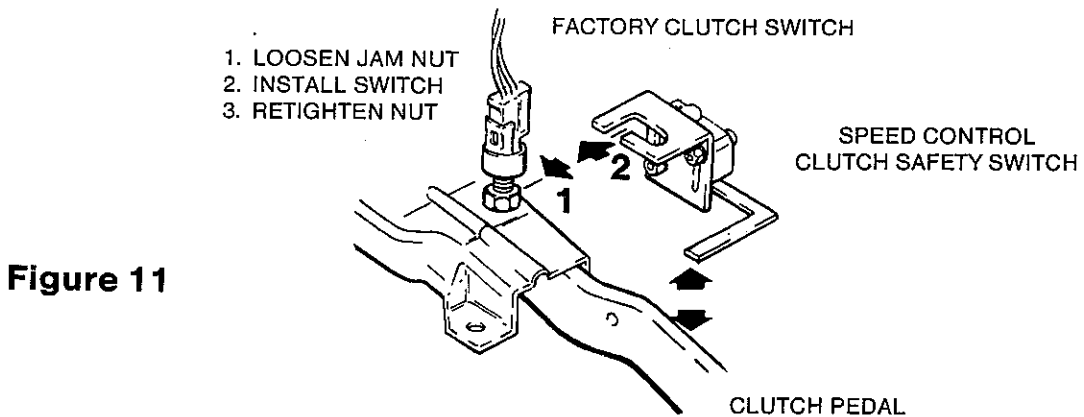

Figure 11
13. Loosen vehicle clutch switch jam nut and slide microswitch assembly, provided in the kit, into place. Make sure microswitch arm will press against clutch pedal. See **FIGURE 11**. Tighten jam nut firmly and check operation of switch by depressing brake pedal, (a click should be heard each time pedal is depressed).